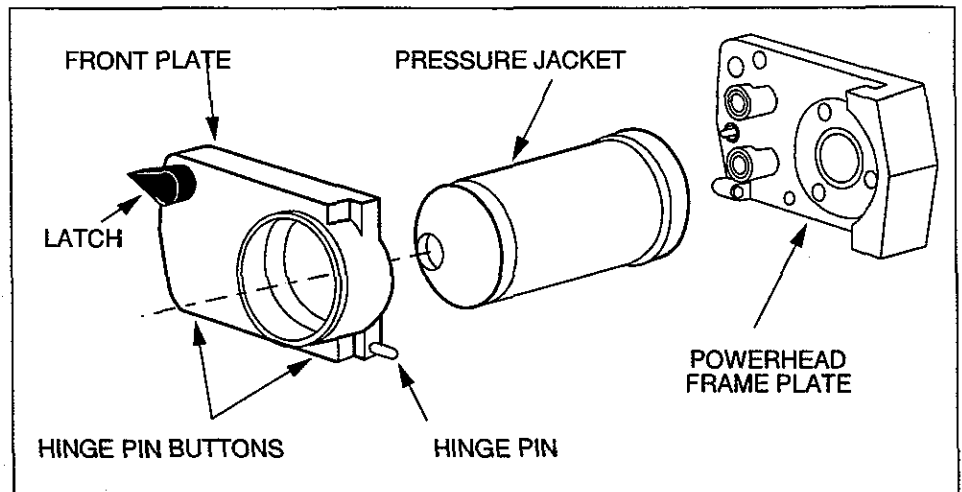

Figure 2-4
1. Align notches in the jacket with three retaining screws; insert the pressure jacket fully into the front plate. See Figure 2-4.